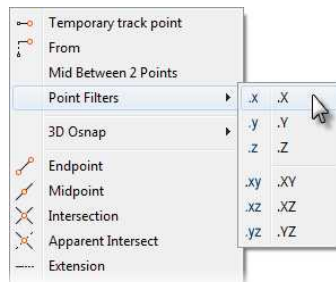

FIGURE 5.34: Select the X point filter from the Object Snap context menu.
5. At the Specify second point or: prompt, hold the Shift key down and right-click to open the Osnap context menu. Choose Point Filters > .X (see Figure 5.34).